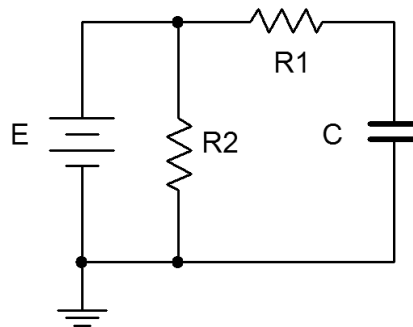

Figure 1.2
- Using figure 1.2 with  $E=10\text{ V}$ ,  $R_1=47\text{ k}\Omega$ ,  $R_2=10\text{ k}$  and  $C=1\text{ }\mu\text{F}$ , calculate the time constant and record it in Table 1.3. Also, calculate and record the expected steady state capacitor voltage in Table 1.4.
- Using figure 1.2 with  $E=10\text{ V}$ ,  $R_1=47\text{ k}$ ,  $R_2=10\text{ k}\Omega$  and  $C=470\text{ }\mu\text{F}$ , calculate the time constants and record them in Table 1.5. Also, calculate and record the expected steady state capacitor voltage (charge phase) in Table 1.5.